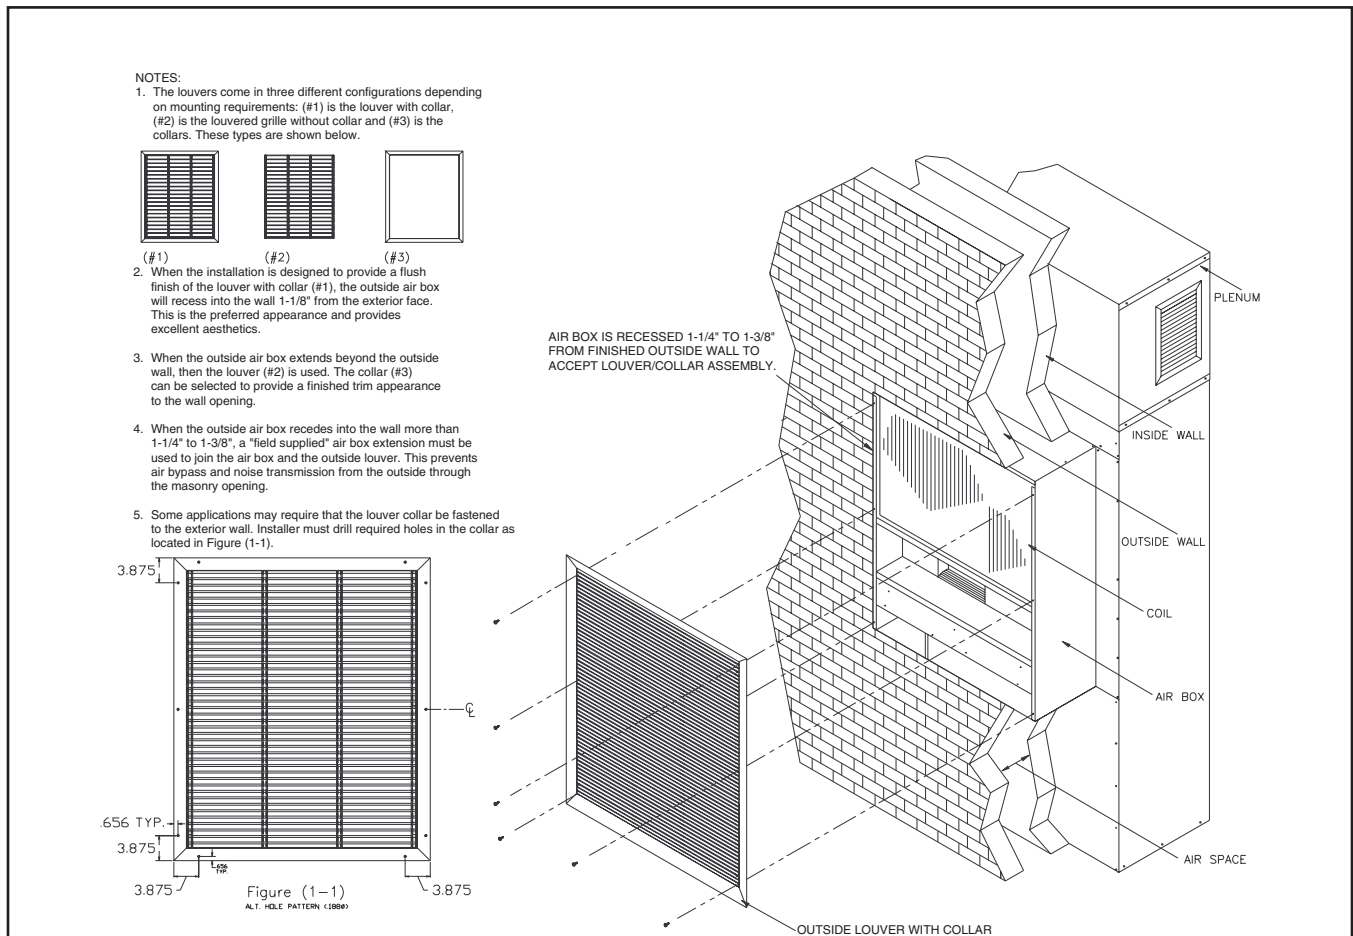

Figure 2. Installation of Louver/Collar Assembly to Air Box
1. The louver/collar assembly is fastened directly to the air box as shown in Figure 2, with six screws supplied with the louver/collar. Prior to installing the louver, apply caulk around the perimeter flange of the outdoor air box. Be careful not to block
2. The louver/collar assembly is **fastened directly to the outside wall**, as shown in Figure 2.
The louver itself may be fastened to the air box as shown in Figure 2.
The collar itself may be fastened to the outside wall by following the instructions in Figure 2.